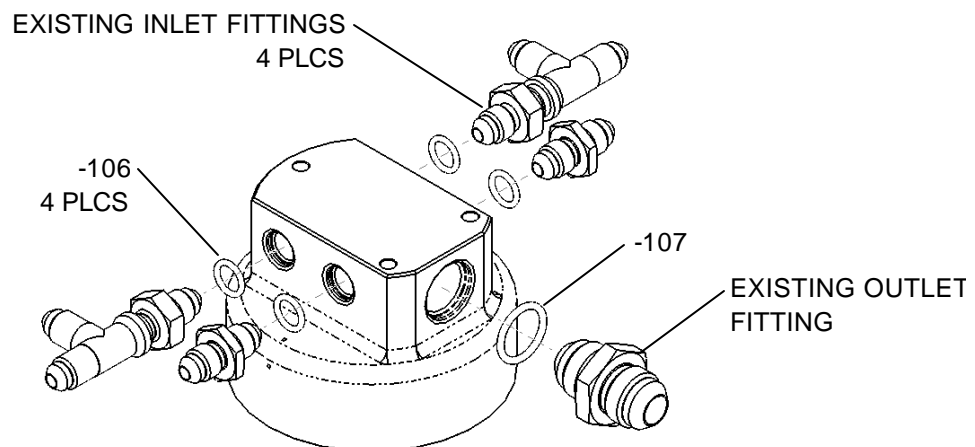

Figure 1
3. Install existing drain fittings in Reservoir Housing, -101, as shown. Reference Figure 1.